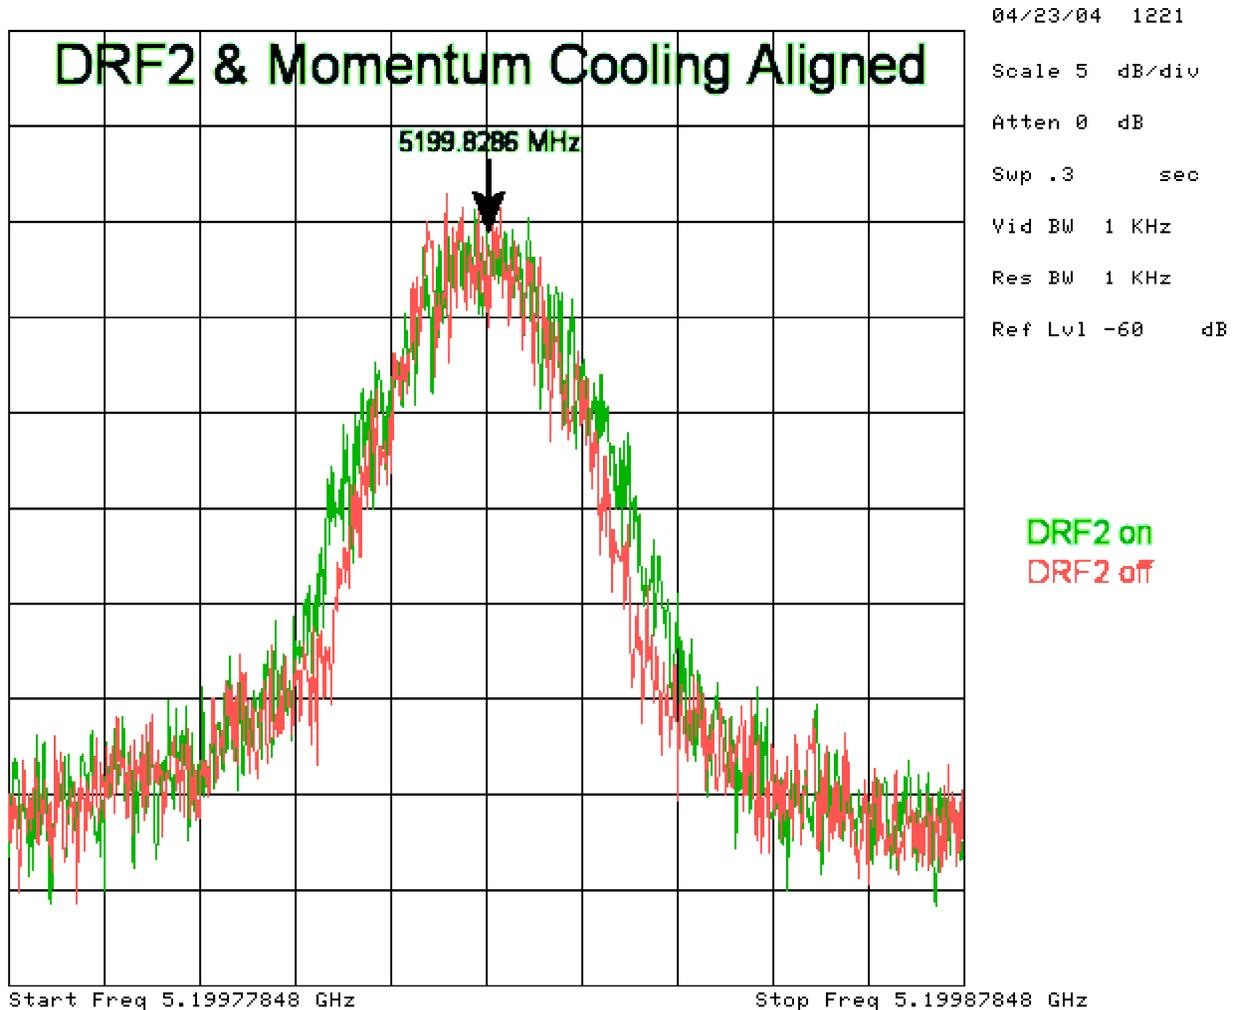

Figure 4: DRF2 and Debuncher Momentum Cooling Aligned.
20. From P₄₂ toggle "Add trace to plot" and then click "Trace A." You will get a plot that may look like figure 4 below.
21. Compare the two distributions on your plot as seen above in Figure 4.